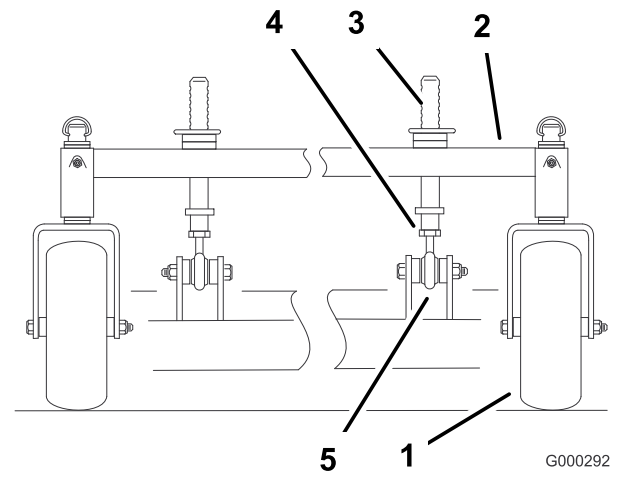

Figure 67
2. To raise the front of the deck, loosen jam nut and rotate the front pin clockwise (Figure 67).
3. To lower the front of the deck, loosen jam nut and rotate the front pin counter clockwise (Figure 67).
6. Tighten the jam nuts (Figure 67).
1. To change the front-to-rear pitch, the front height-of-cut posts can be adjusted (Figure 67).